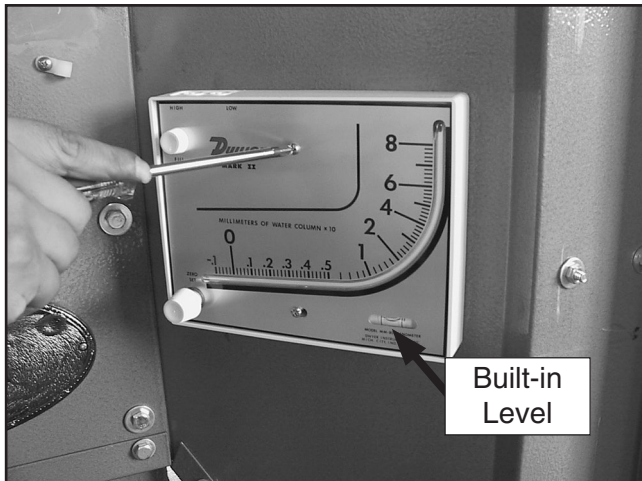

Figure 24. Mounting manometer to spray booth.
1. Mount the manometer to the side of the spray booth using the M4 x 45 tap screws as shown in **Figure 24**.
2. Adjust the manometer so the built-in level reads level (**Figure 24**).